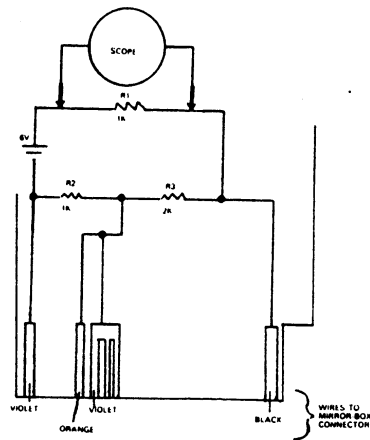

Figure 7
Check the timing between the magnet switch and the memory switch by plugging the modified circuit board (Fig. 7) into the mirror-box connector I100. Power the special circuit board with a 6V DC power supply. Then measure across the switch with an oscilloscope as you release the mirror-box. You should measure a time lag of 10-12ms between the moment the memory switch opens and the moment the magnet switch closes. Adjust the time lag by reforming the long blade of the magnet switch at the point indicated in Fig. 5. The oscilloscope test also allows you to see chattering in the magnet switch.
The magnet switch (Fig. 5) should close as the diaphragm-closing lever starts to move down. You should then measure direct continuity between the orange wire and the black wire (Fig. 7). To check the magnet switch without removing the mirror-box, you can use the modified circuit board shown in Fig. 7. From the top of the camera, proceed with the disassembly far enough to lift out the memory circuit board. Check for direct continuity between the orange-wire connection and the black-wire connection with the shutter held open on Bulb. No continuity: Magnet switch is not closing.
- b. The flex circuit has been physically changed several times, but the electronic operation remains the same. The complete pictorial (Fig. 7) shows the early style; the partial pictorials show the differences in later styles.